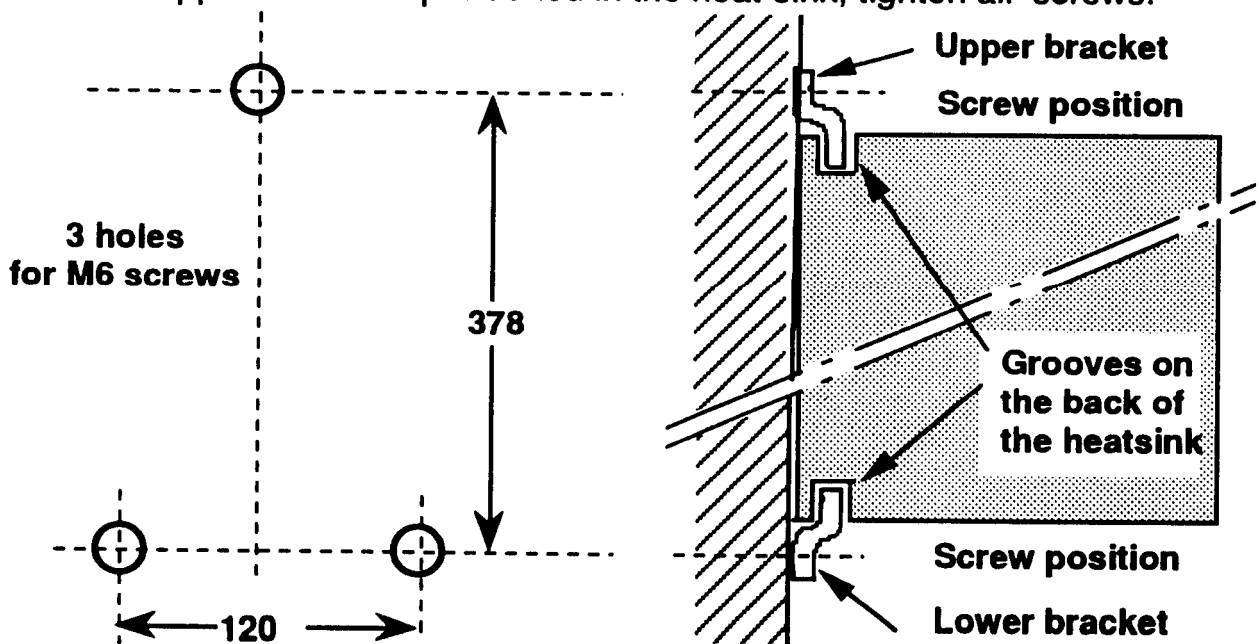

Figure 2.1. Drilling details and mounting of a convection cooled unit, bulkhead mounting
- a. Fix the two brackets on the panel using **M6** screws. Ensure that the drilling dimensions (see fig. 2.1) are respected.